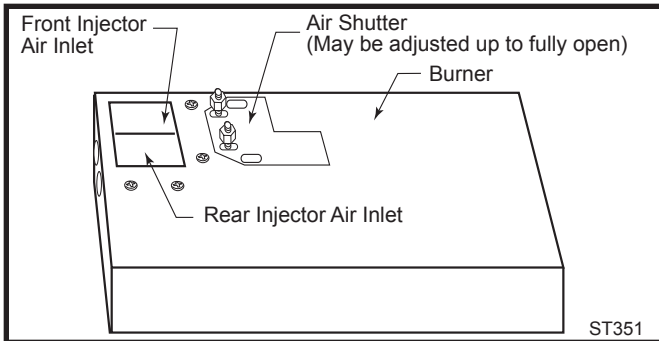

Fig. 39 Air shutter adjusted.
8. The air shutter is located on the bottom of the burner to the left. Unfasten the two nuts holding the shutter in place. The shutter may be adjusted between the factory adjusted 1/2" to fully open. Reassemble the shutter to allow the rear injector air inlet to close from the minimum 1/2" opening to fully open. (Fig. 39) You may have to try more than once to find the correct air shutter opening for best results depending on your altitude.